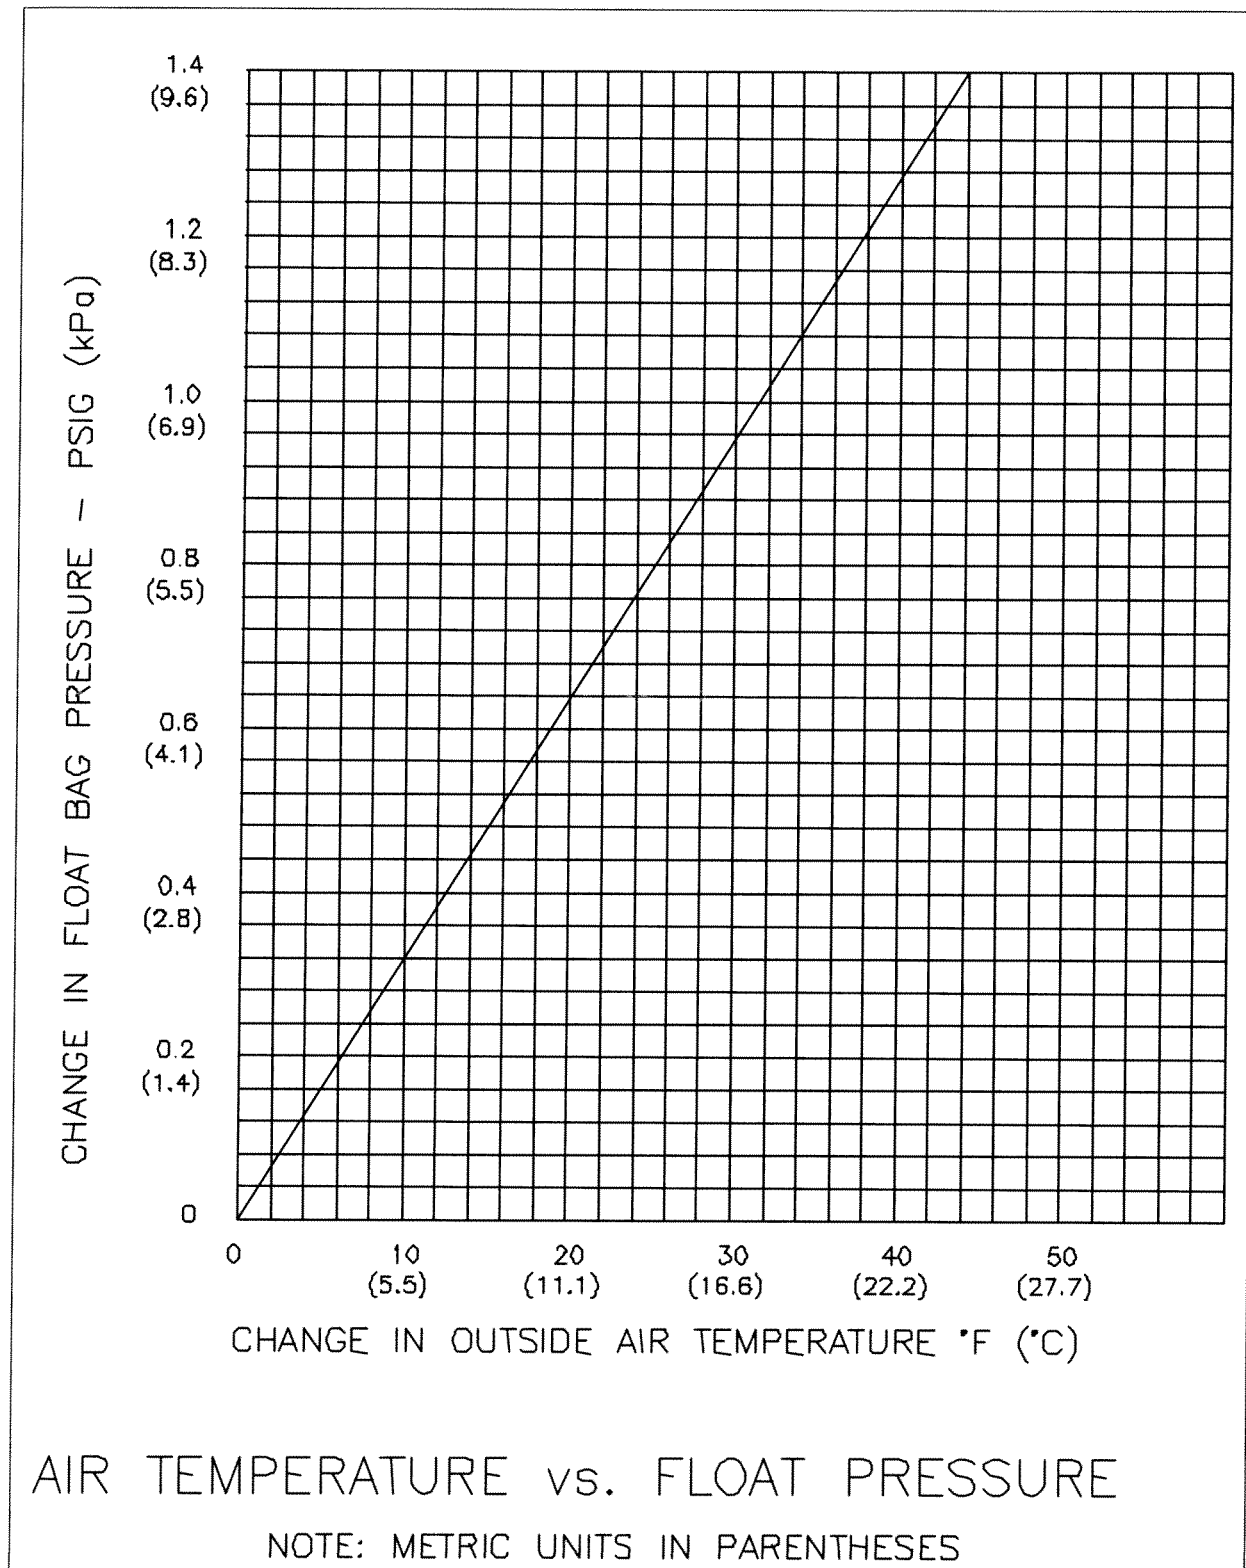

FIGURE 1. AIR TEMPERATURE VS. FLOAT PRESSURE
1. Inflate bags to 2.25 psig. Readjust pressure after two (2) hours if required.
3. After 6 hours, record OAT and bag pressure. See the graph of Figure 1 to determine changes in bag pressure caused by OAT changes.
(Ref. Figure 1)